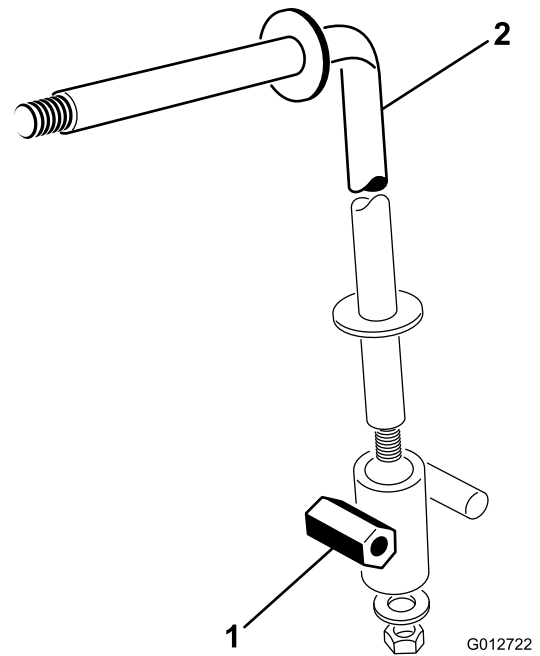

Figure 8
1. Secure the lift bail housing to the lift bail with a thrust washer and locknut (3/4 inch). Position the lift bail as shown in Figure 8.